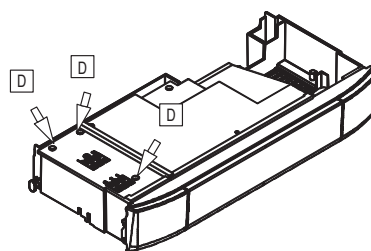

Figure 16.2
- Loosen the screws D and remove the service panel (Figure 16.2)